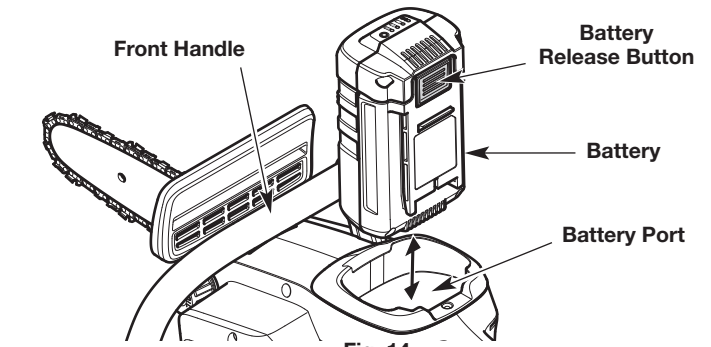

Fig. 14
1. Grasp the front handle firmly (Fig. 14).
2. Slide the battery into the battery port (Fig. 14). Push the battery firmly until the battery locks into place (Fig. 14). There should be an audible “click.”
2. Press the battery release button to unlock the battery (Fig. 14).
3. Pull the battery out of the battery port (Fig. 14).